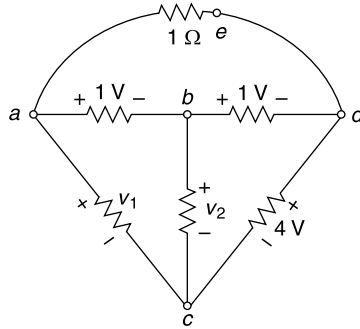

Fig. 4.33 Circuit of Ex. 4.20
4.20 In the network of Fig. 4.33, find v_1 and v_2 using KVL.